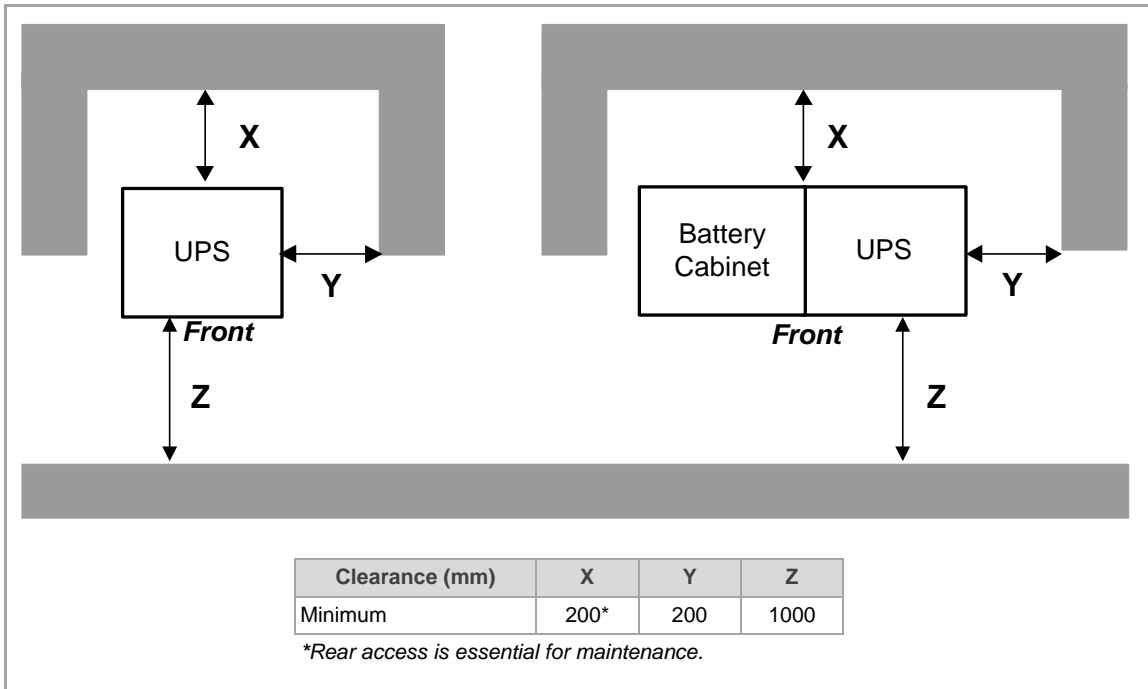

Figure 3.1 UPS & Battery Cabinet Space Requirements
3. The UPS cabinet requires space to bottom/front and back to enable cooling airflow. Suitable ventilation airflow must also be provided (See Figure 3.1). Allow a 200mm minimum clearance at the back of the cabinet.